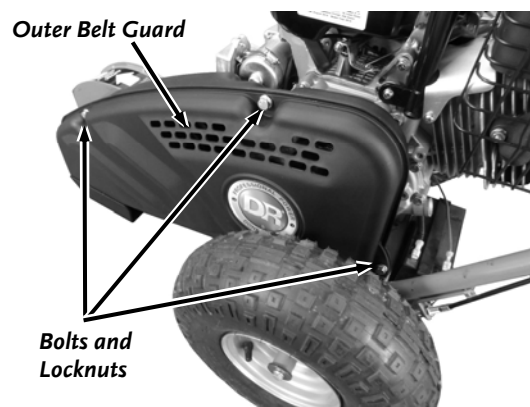

Figure 36
1. Remove the three Bolts and Locknuts from the Belt Guards with two 1/2" Wrenches and remove the outer Belt Guard (**Figure 36**).